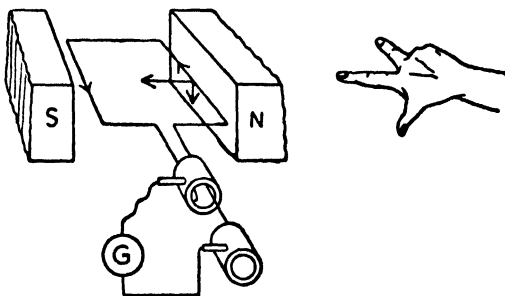

FIG. 302.
the poles of a magnet (fig. 302). It is cutting the lines of force or the "magnetic flux." Suppose that the loop is connected to two slip rings rubbed by brushes of carbon or copper gauze. Let the brushes be connected to a galvanometer having a central zero.
1. Draw a diagram to illustrate the essentials of a D.C. motor. Show one armature coil and mark the directions of (a) lines of force, (b) current, (c) motion. See fig. 302.